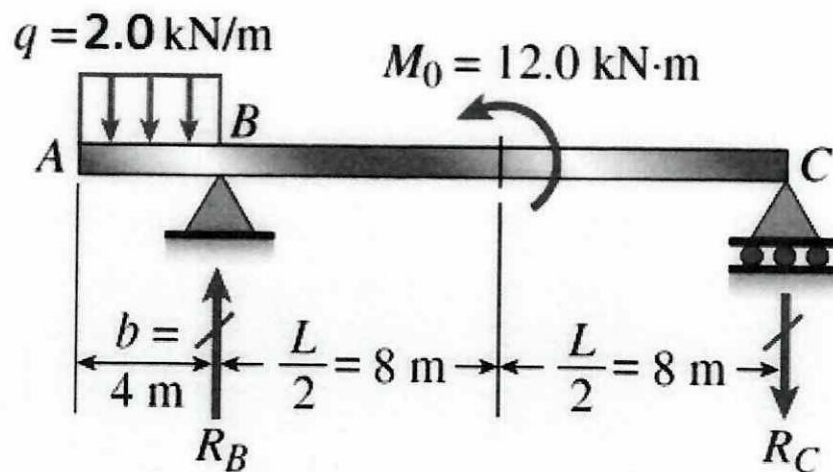

Figure Q5: An overhang beam ABC
- Q5** A beam ABC with an overhang at the left-hand end is shown in **Figure Q5**. The beam is subjected to a uniform load of intensity $q=2.0$ kN/m on the overhang AB and a counterclockwise couple $M_0= 12.0$ kNm acting midway between the supports at B and C .